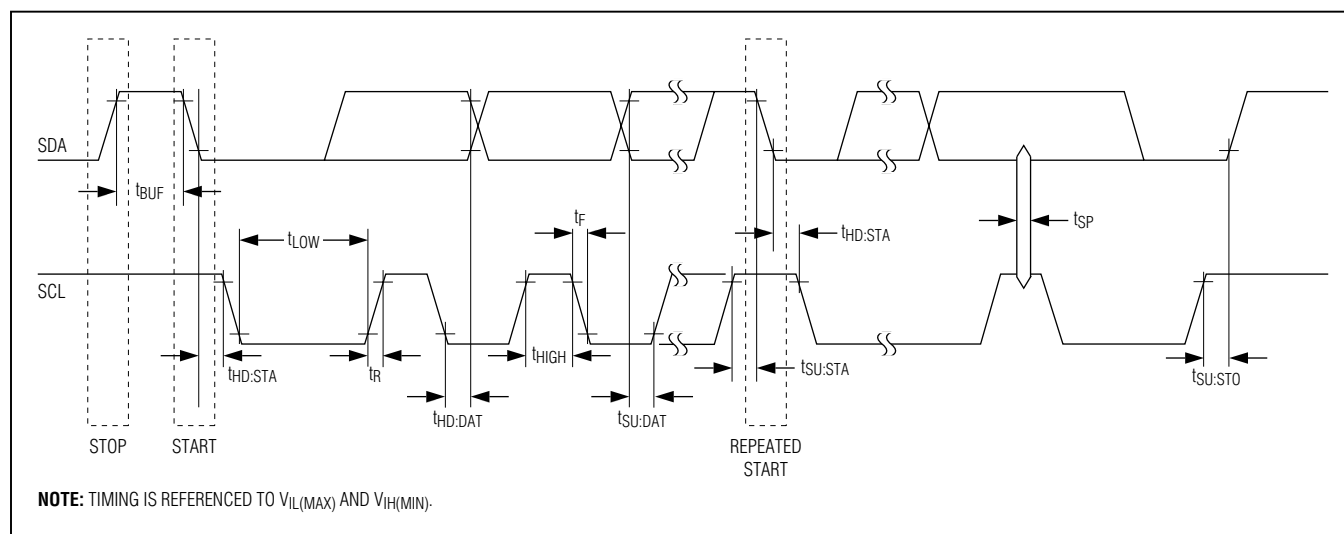

Figure 7. I2C Timing Diagram
The following terminology is commonly used to describe I2C data transfers. See Figure 7 and the I2C AC Electrical Characteristics table for additional information.
**Acknowledgement (ACK and NACK):** An acknowledgement (ACK) or not-acknowledge (NACK) is always the 9th bit transmitted during a byte transfer. The device receiving data (the master during a read or the slave during a write operation) performs an ACK by transmitting a zero during the 9th bit. A device performs a NACK by transmitting a one (done by releasing SDA) during the 9th bit. Timing (Figure 7) for the ACK and NACK is identical to all other bit writes. An ACK is the acknowledgment that the device is properly receiving